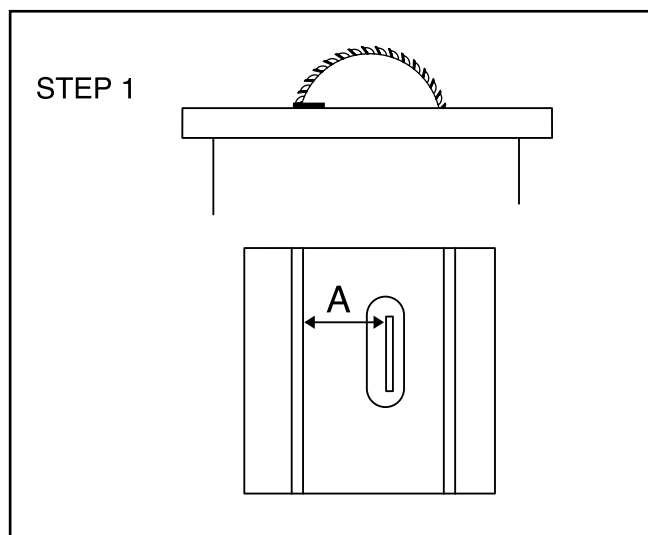

Figure 16.
1. Use a piece of tape to mark the blade in the gullet between two (2) teeth closest to the table.
2. Use a steel rule to measure the distance from the mark on the blade to the edge of the miter slot. **Figure 16.**